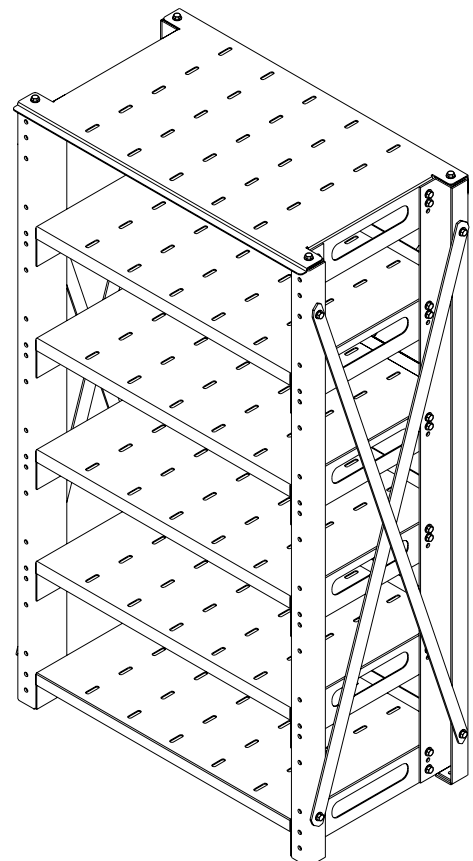

Figure 7.6b – Front view of rack
- For seismic racks, install the side cross braces per Figure 7.6b.